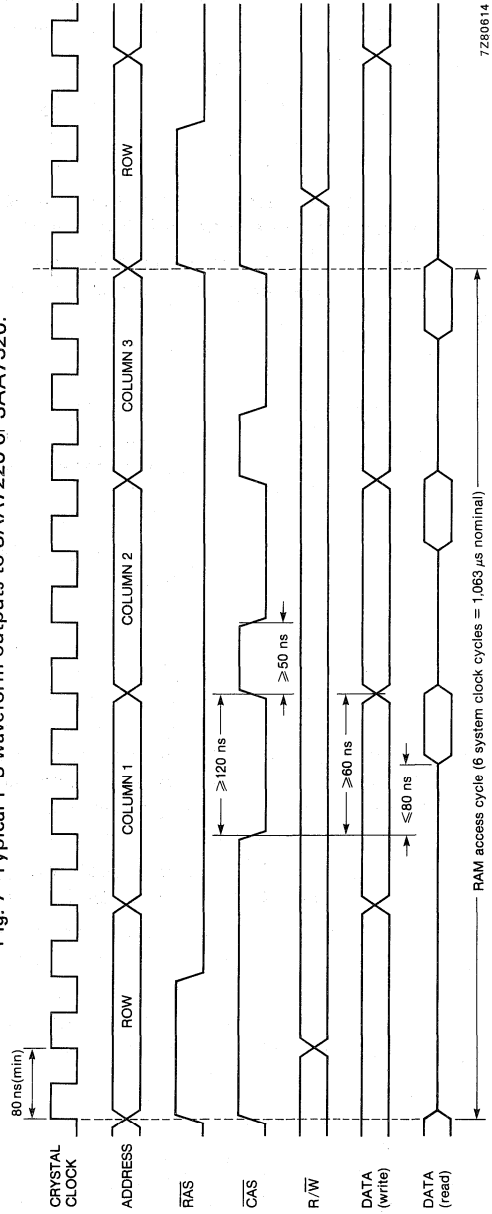

Fig. 8 RAM timing waveforms: timings based on RAM TMS4416; G input to RAM held LOW.
The RAM interface uses the full crystal frequency of 11,2 MHz to determine the RAM access waveforms (the main clock for the system is 5,6 MHz). One RAM access (READ or WRITE) uses 12 crystal clock cycles which is approximately 1 μ s. The timing (see Fig. 8) is based upon the specification for the dynamic 16 K x 4-bit RAM (4416). This RAM requires multiplexed address signals and therefore, in each access cycle, a row address $\overline{\text{RAS}}$ pin 9 (15) is set up first and then three 4-bit nibbles are accessed using sequential column addresses $\overline{\text{CAS}}$ pin 15 (22). As only 10 bits are used for each symbol (including flags), the fourth nibble is not accessible.